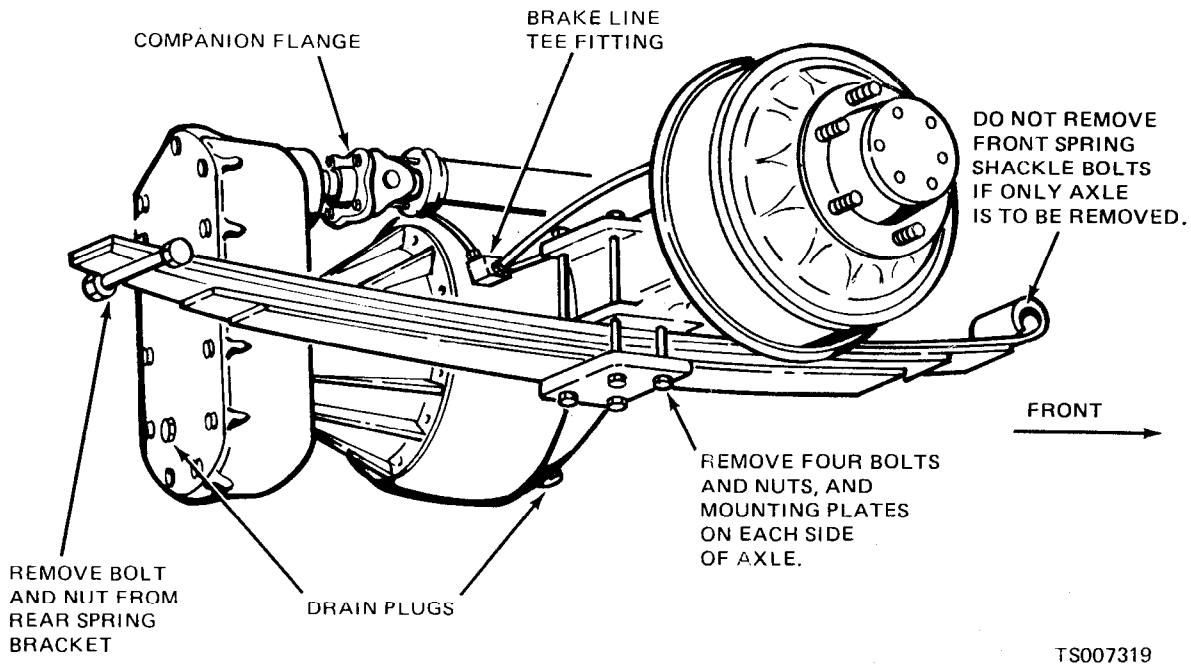

Figure 2-4. Rear Axle Removal.
(1) Jack up, or hoist the entire vehicle high enough off the work surface to provide adequate working space underneath the frame for axle removal. See fig. 2-4.
(2) Raise the axle on the axle jack so that the springs can be rotated up into position. The free end (rearmost) of the springs should slide between the two frame brackets on each side.
(3) Install the two rear spring bracket bolts and locknuts, and tighten securely. Note that the bolt must be installed below the spring leaves to retain the free end of the spring.
(4) Carefully align the axle so that the center bolt of the spring fits into the recess under the spring pad on each side of the axle.
(5) Lower the axle so that it just rests on the springs.
(6) Position the spring plate (as shown in figure 2-4) and secure axle to springs by installing four bolts and locknuts on each side of the axle. Torque bolts to 50 to 60 ft/lbs.
(7) Connect brake line at tee fitting.
(8) Connect flange yoke on drive shaft to reduction gearcase companion flange and secure with four capscrews and nuts.
(9) Mount rear wheels and tires.
(10) Lower vehicle to the ground or floor, and fill the differential and reduction gearcase with the proper grade and type of lubricant for the season, as specified in LO 10-3930-633-12.
(11) Bleed the brakes. (Refer to TM 10-3930-633-12.)